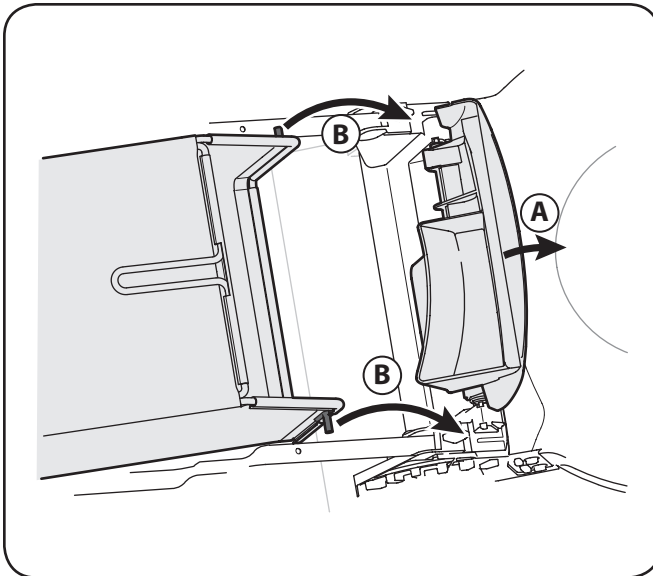

Figure 3-8
- b. Place grass catcher into the slots in the handle brackets as shown in Fig. 3-8. Let go of discharge door so that it rests on the grass catcher.